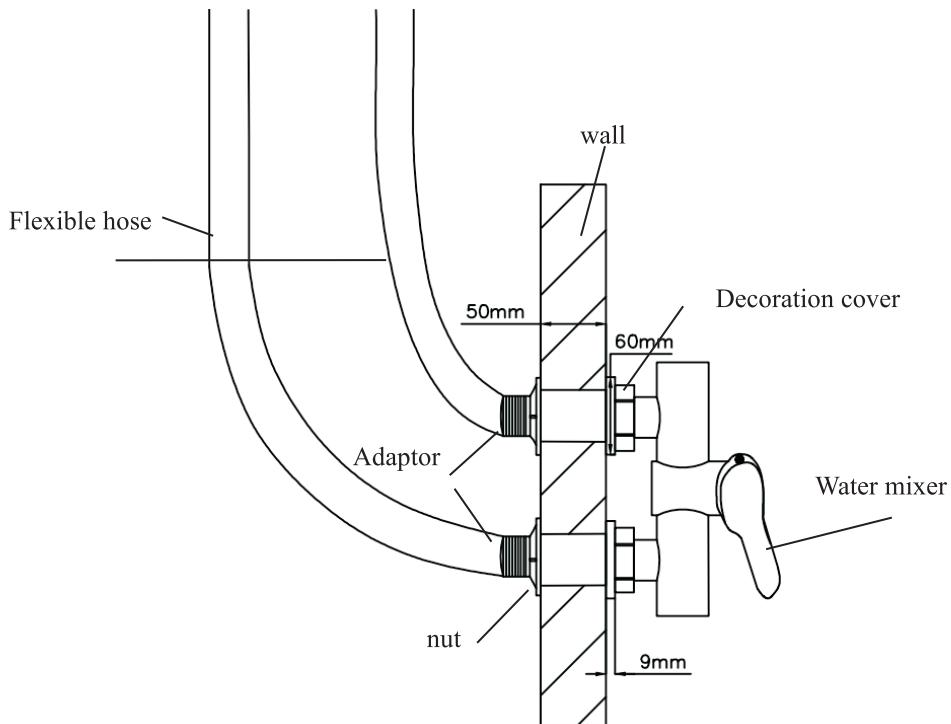

Fig. 5
2. Soft connection: water mixer installation by flexible hose: see Fig. 5